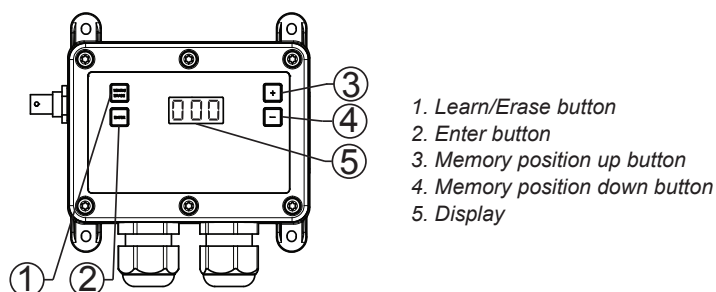

Figure 5. Sesam 800 RXD model display and buttons
2. To select what memory position to use (memory positions can be 1-500) press the Memory Position UP or Memory Position DOWN buttons (see Figure 5). The left decimal on the display indicates whether the chosen memory position is already used.